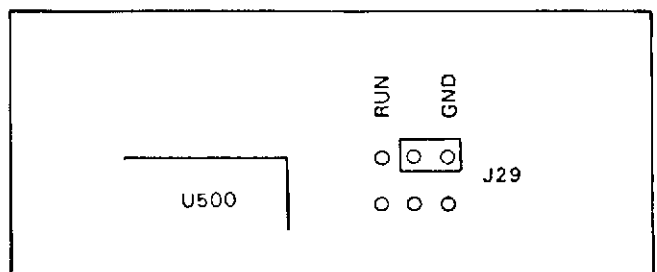

Figure 8-B-1. Test Jumper A20J29 in Ground Position.
3. Place jumper A20J29 in the GND test position, as shown in Figure 8-B-1 (Schematic 4).
3. Make sure jumper A20J29 is in the GND position (as shown in Figure 8-B-1), before doing the next step.